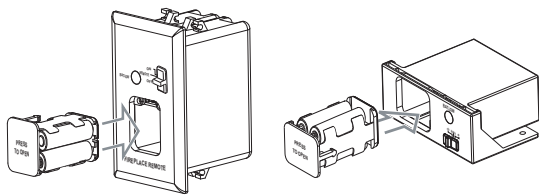

Figure 4
Manual Mode. See Figure 4
6. Slide the battery compartment into the Remote Receiver. See *Figure 4*.